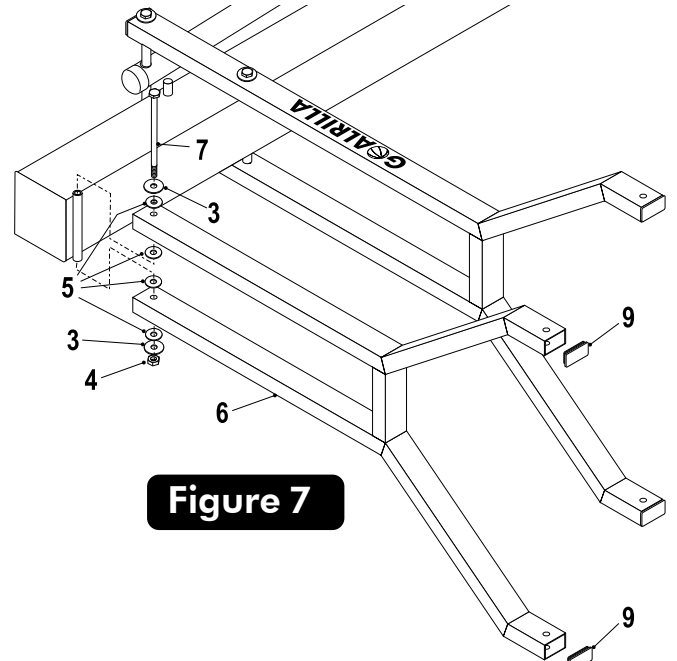

Figure 7
- Attach Upper Arm (#6) to Pole (#2), as shown in Figure 7, using a bolt (#7), two flatwashers (#3), four plastic washers (#5) and hex nut (#4).